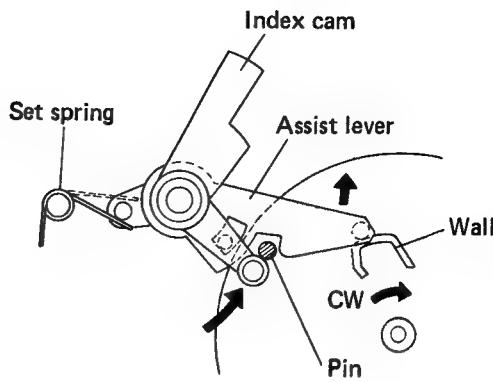

Fig. 2-14 Return operation 1
2. The EV sheet is forced up at the slope in the drive plate, thereby raising the tonearm. The return projection on the drive plate pushes against the PU plate pin to move the tonearm in the return direction (see Fig. 2-14).